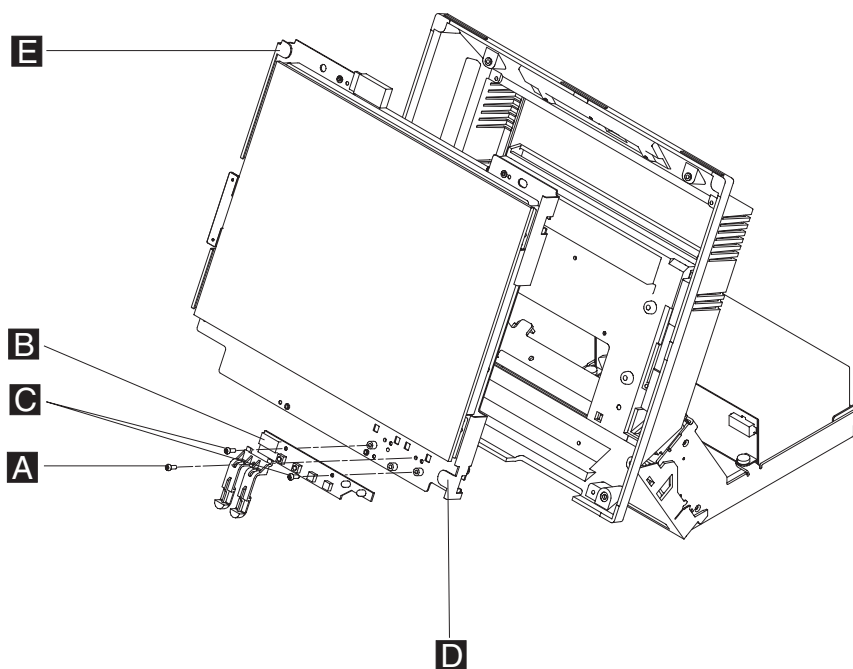

Figure 73. Removing the Operator-panel card
5. Remove the Operator-panel card **B** (**C** – two screws) from the lower right corner of the system board as shown in Figure 73 and detach the connectors. If necessary, remove and replace the cable.